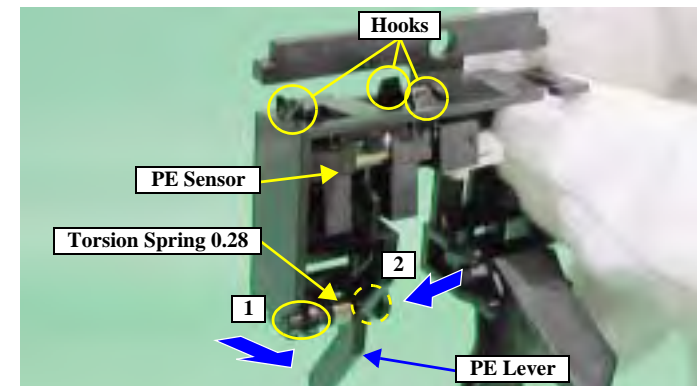

Figure 4-57. PE Sensor/PE Sensor Holder/PE Lever Removal 2
5. Follow the order shown in Figure 4-57 to remove the PE Lever along with the Torsion Spring 0.28.